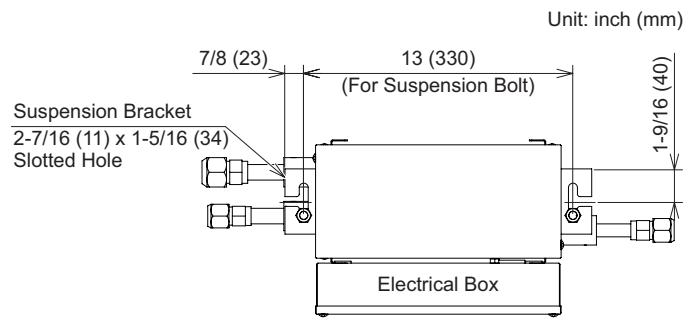

Figure 4.2 Position of Suspension Bolts
- (2) Mount suspension bolts.
- (3) Mount the suspension bolts in the slotted hole on the electrical box side as shown in Figure 4.2.
- (4) Contact a qualified contractor or carpenter for the ceiling or structure work.